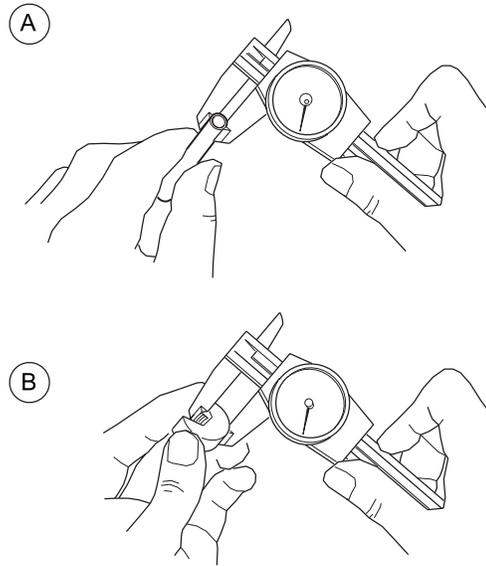

Figure 11 *Setting the Arc Gap Gage*
1. Measure the OD of the work to be welded using a caliper or micrometer and record the value. See Figure 11(A).
- Set the arc gap gage to the value from the table using the provided 3/32 in. hex wrench. Measure from the bottom of the arc gap gage to the top of the adjustment screw. See Figure 11(B).